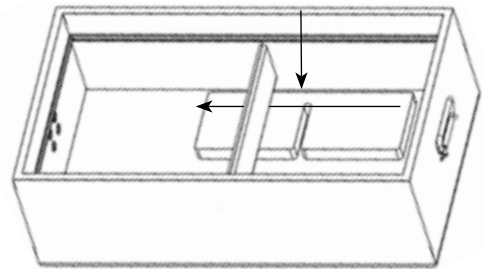

Figure 22
2. Flip over the sitting box and place the foam spacer on the bottom with the PSA paper facing up. Slide this under the wood rib in the middle. See Figure 22.